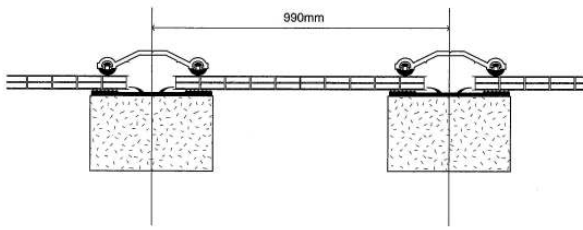

Fig.3
Step 1: Measure and set out where the rafters and, if they are going to be used, purlins are going to lie. Rafters should be at least 60mm wide when installing the P261 system. 16mm sheet can be accommodated at centres no more than 1000mm apart (Fig.3), whereas the glazing centres for 25mm sheet can be extended to 1250mm.